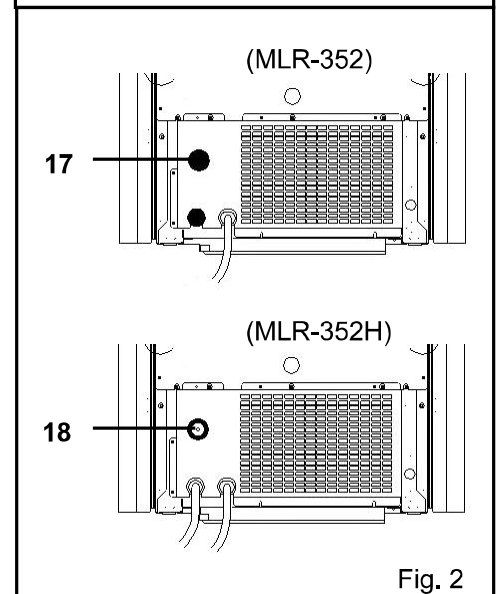

Fig. 2
17. **Cap (MLR-352 only):** Always keep this cap on (Fig. 2).